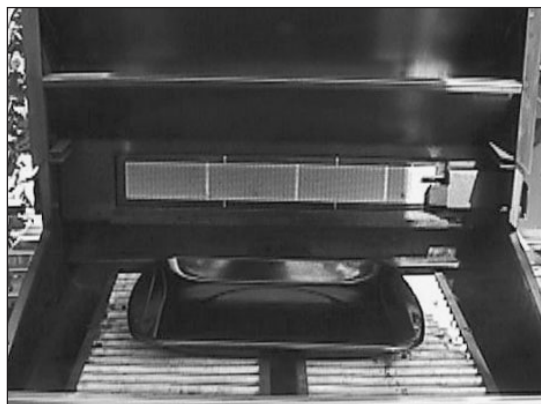

FIG. 22
4. Remove grates and top rack on the grill, place bottom portion of broiler pan on ceramic rods, so meat drippings can be caught in pan. (Fig. 22)